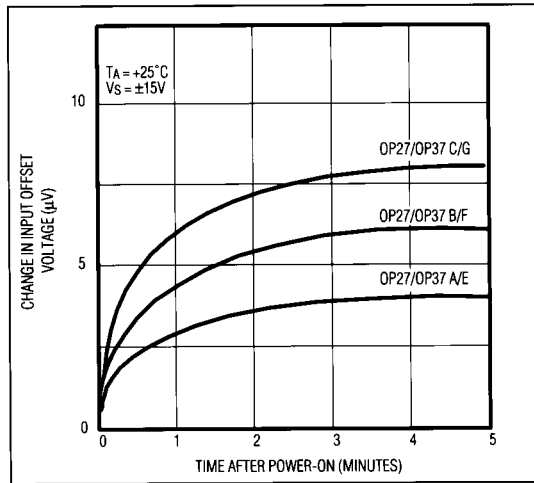

Figure 5. Warm-Up Offset Voltage Drift
1. The device must warm up for at least five minutes. Figure 5 shows how  $V_{OS}$  typically increases  $4\mu V$  with increases in chip temperature after power-up. In the 10sec measurement interval, temperature-induced effects can exceed 10nV.